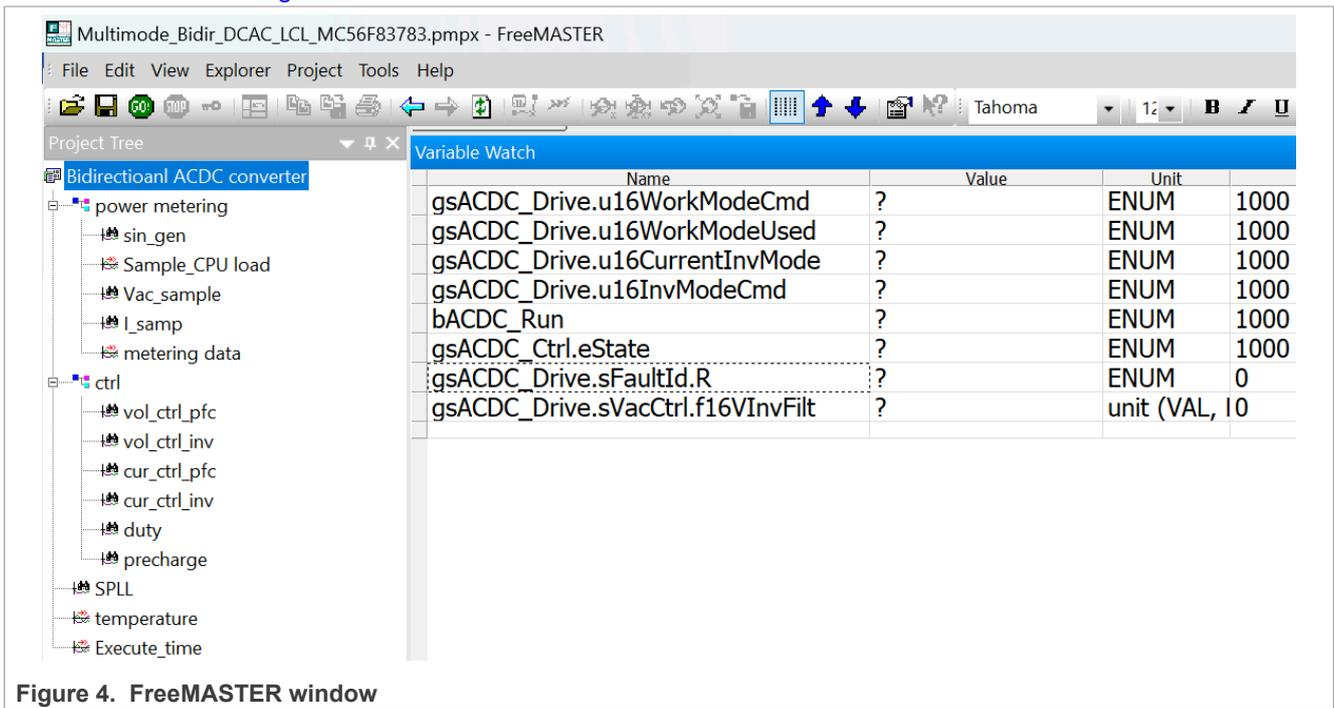

Figure 4. FreeMASTER window
1. Open the FreeMASTER project (Multimode\_Bidir\_DCAC\_LCL\_MC56F83783.pmpx) with the latest FreeMASTER. Figure 4 illustrates the FreeMASTER window.